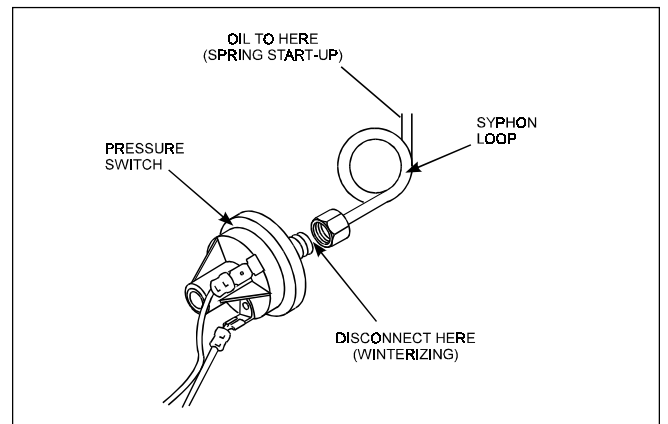

Figure 22. Pressure switch copper tubing.
8. Disconnect the pressure switch from the siphon loop (copper tubing) (see Figure 22).
1. Fill the siphon loop with approximately 5cc of SAE 50, non-detergent oil. Attach the copper tubing to the pressure switch (see Figure 22).
5. Turn on the heater following the lighting instructions found on the inside of the heater, or pages 17(LD) or 18(LG) of this manual.